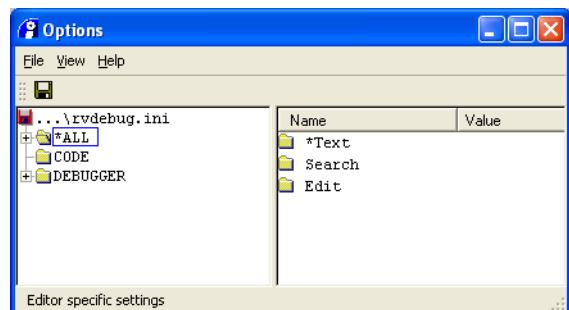

Figure 4-12 Settings Window
1. Select **Options...** from the **Tools** menu to display the Options window. Figure 4-12 shows an example. This window contains your global workspace settings.